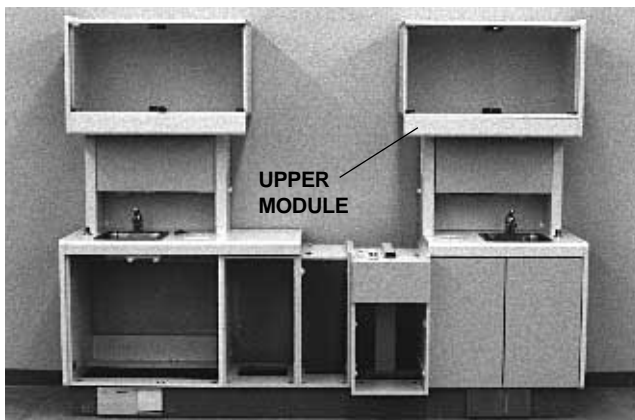

FIGURE 12
- Locate the upper module which will be installed on the right end of the console. Repeat steps 2 through 6 to install this module (see Figure 12).